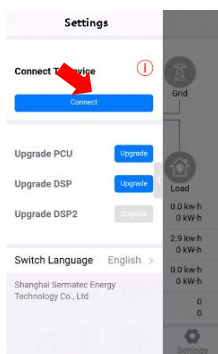

Figure 4-8
3.Open "Sun Mate" APP. Tap "Connect". ( Figure 4-8)